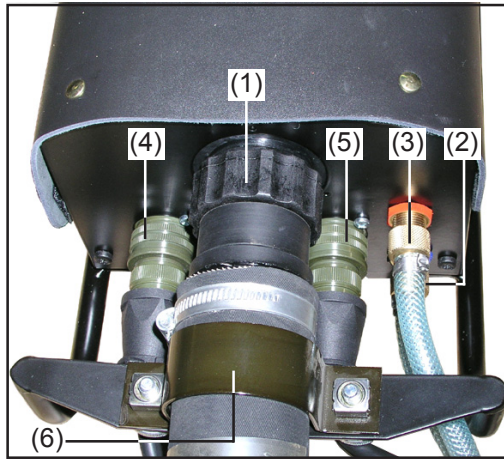

Fig.6 VR 143-2Z Yard: Connecting up the interconnecting hosepack
- On the side of the VR 143-2Z Yard shown here (Fig.6):
2. Insert the other end of the interconnecting hosepack - infeed tube first - into the welding-torch connector (1)
4. Plug the (10-pole) LocalNet plug of the interconnecting hosepack to the LocalNet connection jack (4)
5. Plug the (6-pole) control plug of the interconnecting hosepack onto the control-plug socket (5)
6. Plug the coolant hoses of the interconnecting hosepack onto the (black) plug-type connector for coolant forward-flow (2), and onto the red one for coolant return-flow
7. Fix the interconnecting hosepack in place with a hose clamp (6)